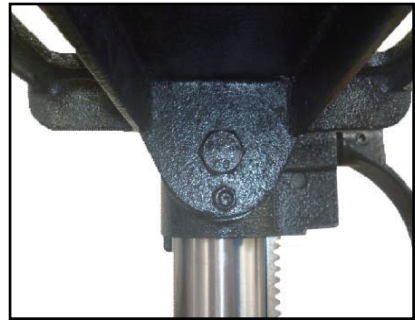

Figure 9
- On underside of table support bracket, loosen the nut (right-handed rotation) with an open end wrench and back out the threaded pin. Loosen large hex head bolt. **See Fig.9**